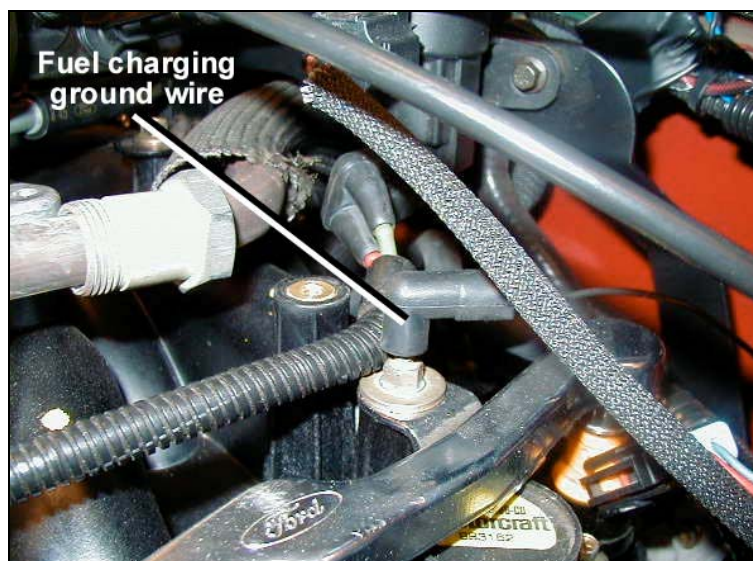

Figure 14
21. Disconnect the fuel charging ground wire (Figure 14).